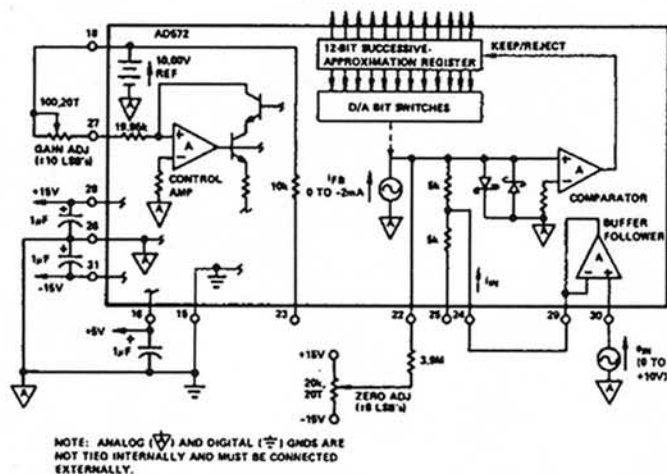

Figure 4. Analog and Power Connections for Unipolar 0 to +10V Input Range with Buffer Follower
Note 2 With 50 Ω, 1% fixed resistor in place of Gain Adjust pot; see Figures 4 and 5.
**Offset Adjust:** Analog and power connections for 0 to  $+10$  V unipolar and  $-10$  V to  $+10$  V bipolar input ranges are shown in Figure 4 and 5, respectively. Bipolar Offset (Pin 23) is open-circuited for all unipolar input ranges, and connected to Comparator Input (Pin 22) for all bipolar input ranges. The zero adjust circuit consists of a potentiometer connected across  $\pm V_s$  with its slider connected through a  $3.9$  M $\Omega$  resistor to Comparator Input (Pin 22) for all ranges. The tolerance of this fixed resistor is not critical, and a carbon composition type is generally adequate. Using a carbon composition resistor having a  $-1200$  ppm/ $^{\circ}C$  tempco contributes a worst-case offset drift of  $8 \times 244 \times 10^{-6} \Omega \times 1200$  ppm/ $^{\circ}C = 2.3$  ppm/ $^{\circ}C$  of  $FSR$ , if the OFFSET ADJ potentiometer is set at either end of its adjustment range. Since the maximum offset adjustment required is typically no more than  $\pm 4$  LSB, use of a carbon composition offset summing resistor typically contributes no more than  $1$  ppm/ $^{\circ}C$  of  $FSR$  offset drift.